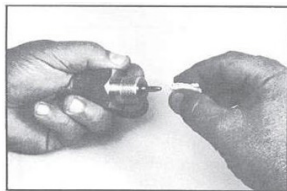

Figure 1:
1. Grafoil can be installed in the bonnet over a dummy trim as shown in Figure 1.